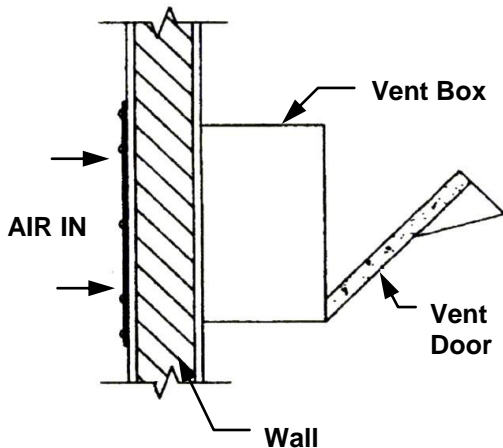

Figure 2 Install Vent into Wall
4. From the outside of the building, insert the Vent Box into the rough opening and secure with fourteen #12x1" tek screws (1004-7041). See Figure 2.